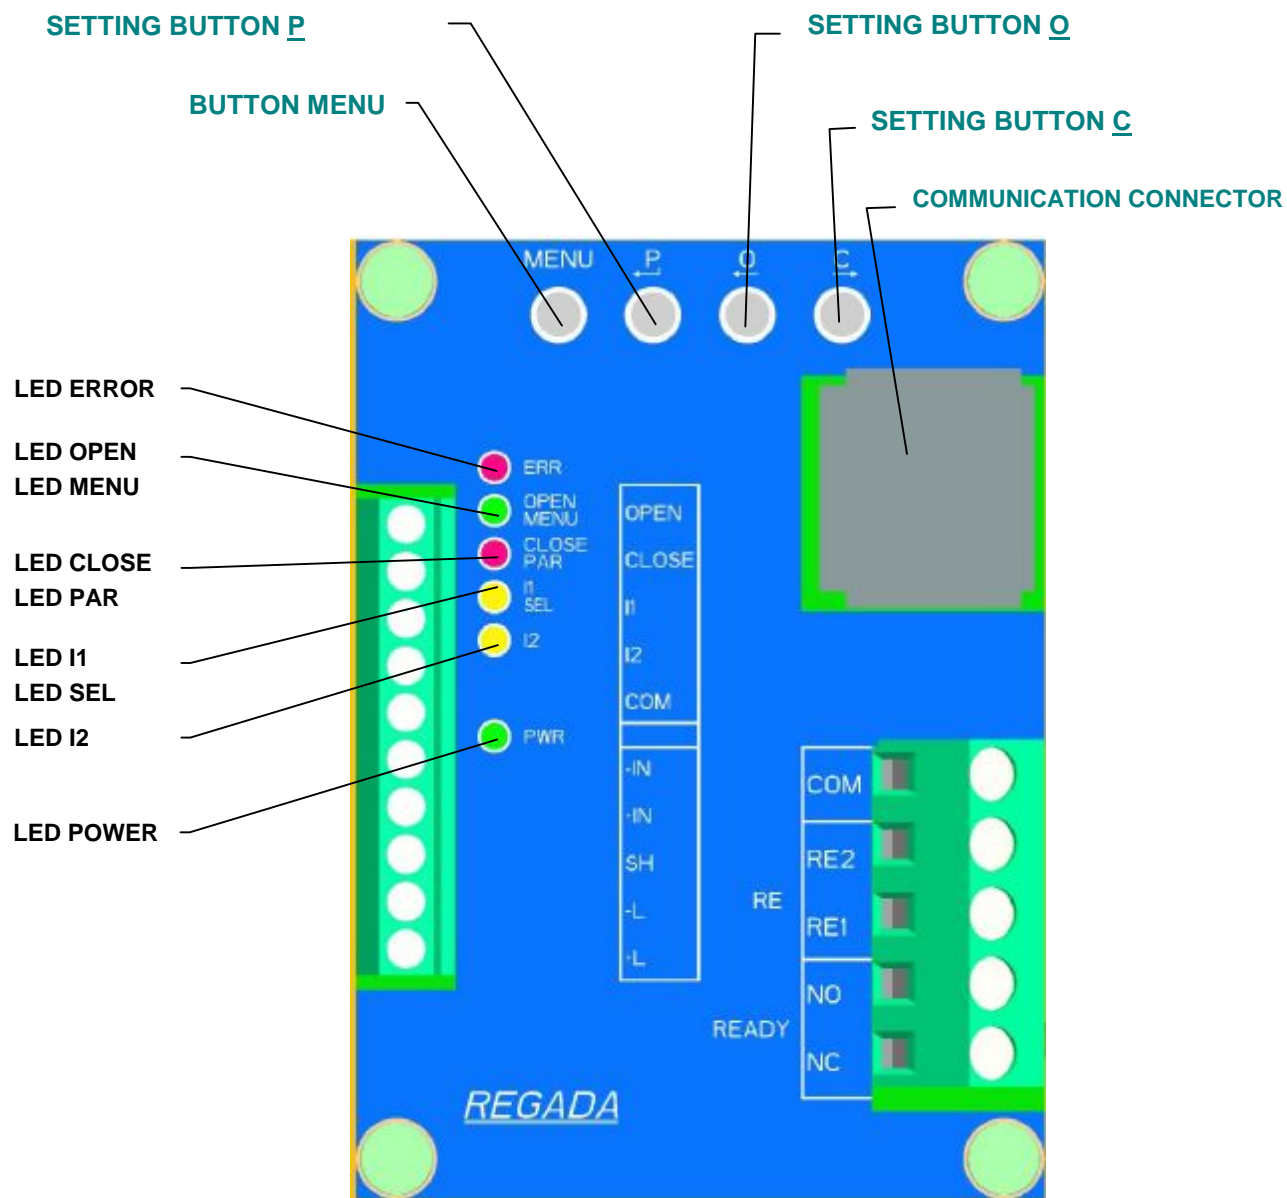
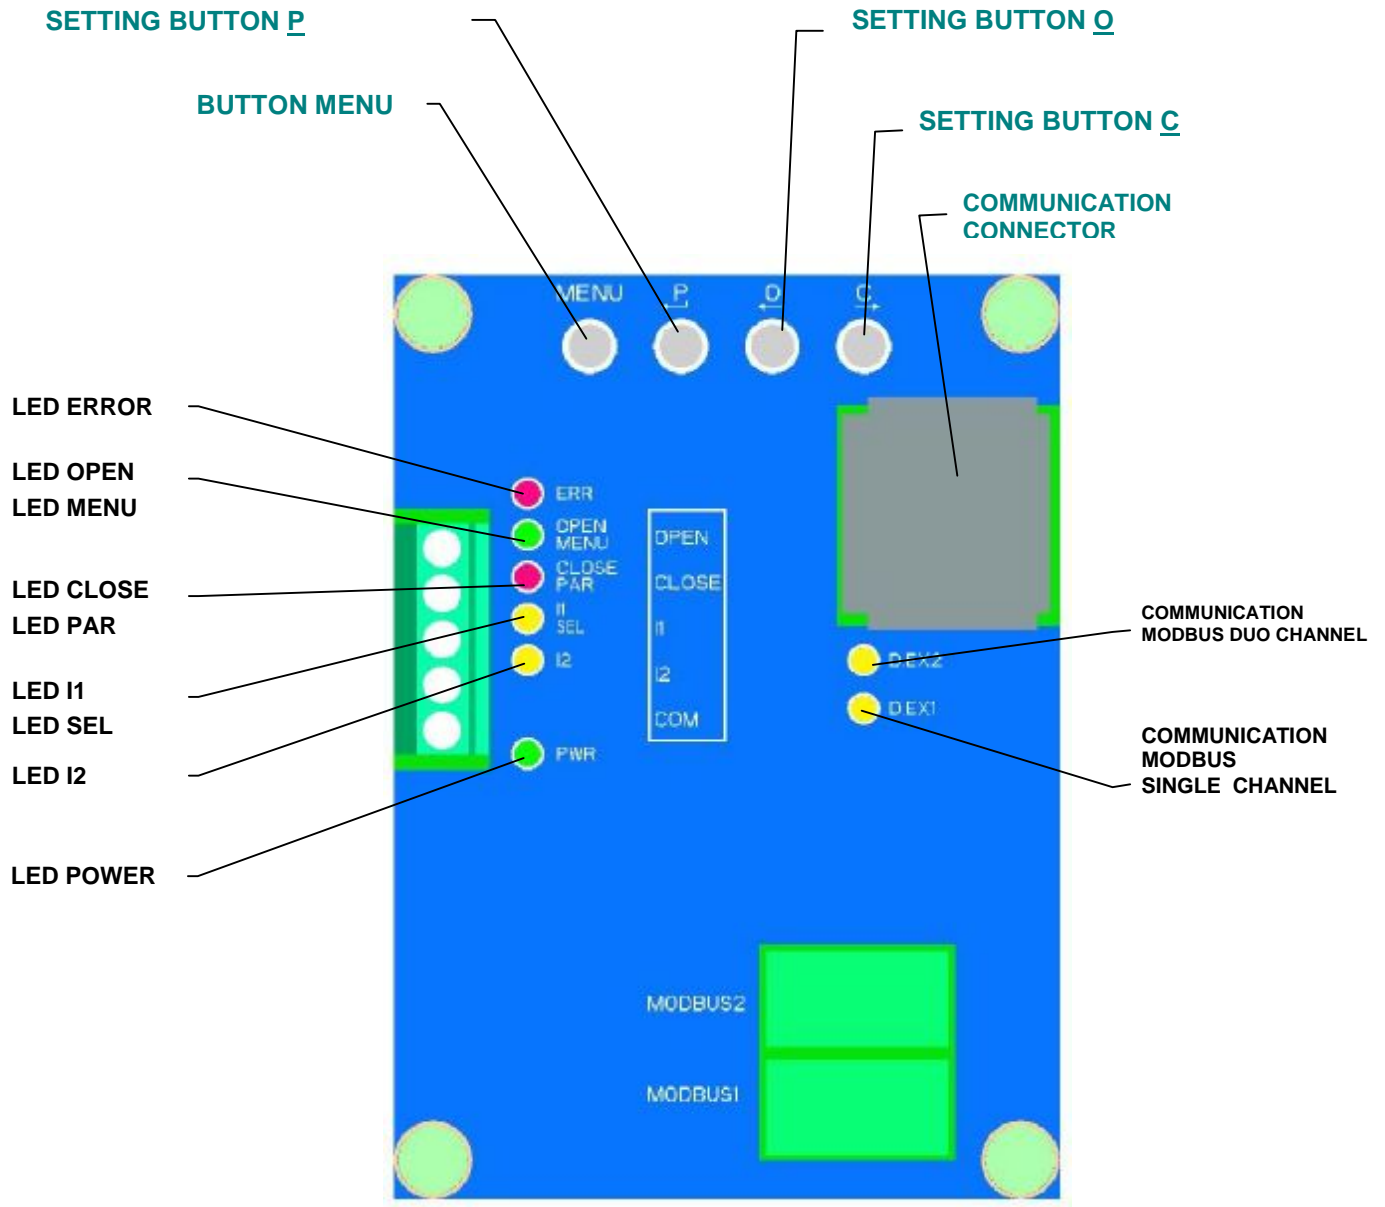

Fig. 6
Fig.6a
The adjustment can be performed at a mechanically and electrically connected EA. This chapter describes how to set up the ES to parameter values within a range applicable for the software. Laying of adjusters of the control board is shown on **Fig.6 and Fig. 6a**.
- by operating the control unit buttons (**see Fig. 6 and Fig. 6a**);
- six signal lamps according (LED diode) to **Fig. 6 and Fig. 6a**.